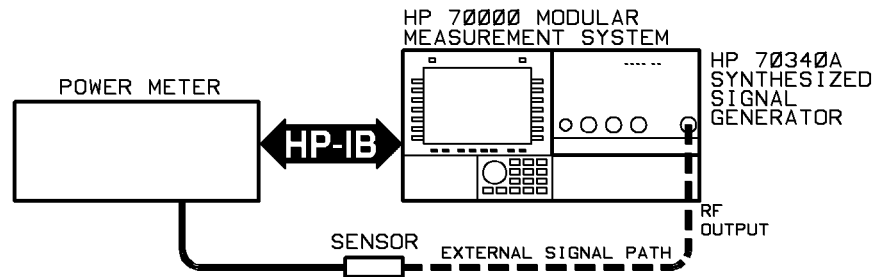

Figure 3-17. Flatness Correction Equipment Setup
1. Connect the equipment as shown in Figure 3-17: